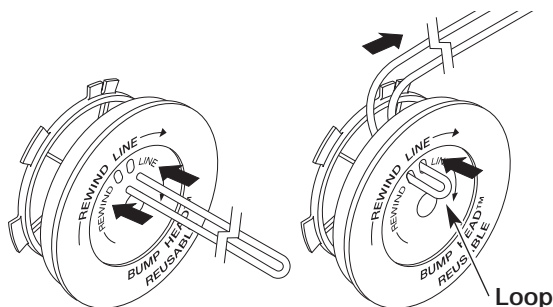

Figure 16
6. Cut approximately 25 feet (7.6 m) of new trimming line, then loop it into two equal lengths. Insert each end of the line through one of the two holes in the inner reel. Pull the line through the inner reel so that the loop is as small as possible. See Figure 16.